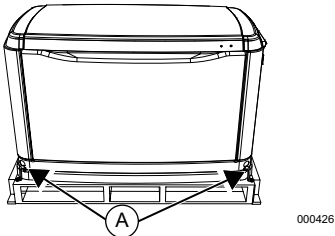

Figure 2-3. Pallet Bracket Locations
4. See Figure 2-3. Remove bolts and pallet brackets (A). Exercise caution when removing generator. Dragging it off pallet will damage base. The unit must be lifted from wooden pallet to remove.